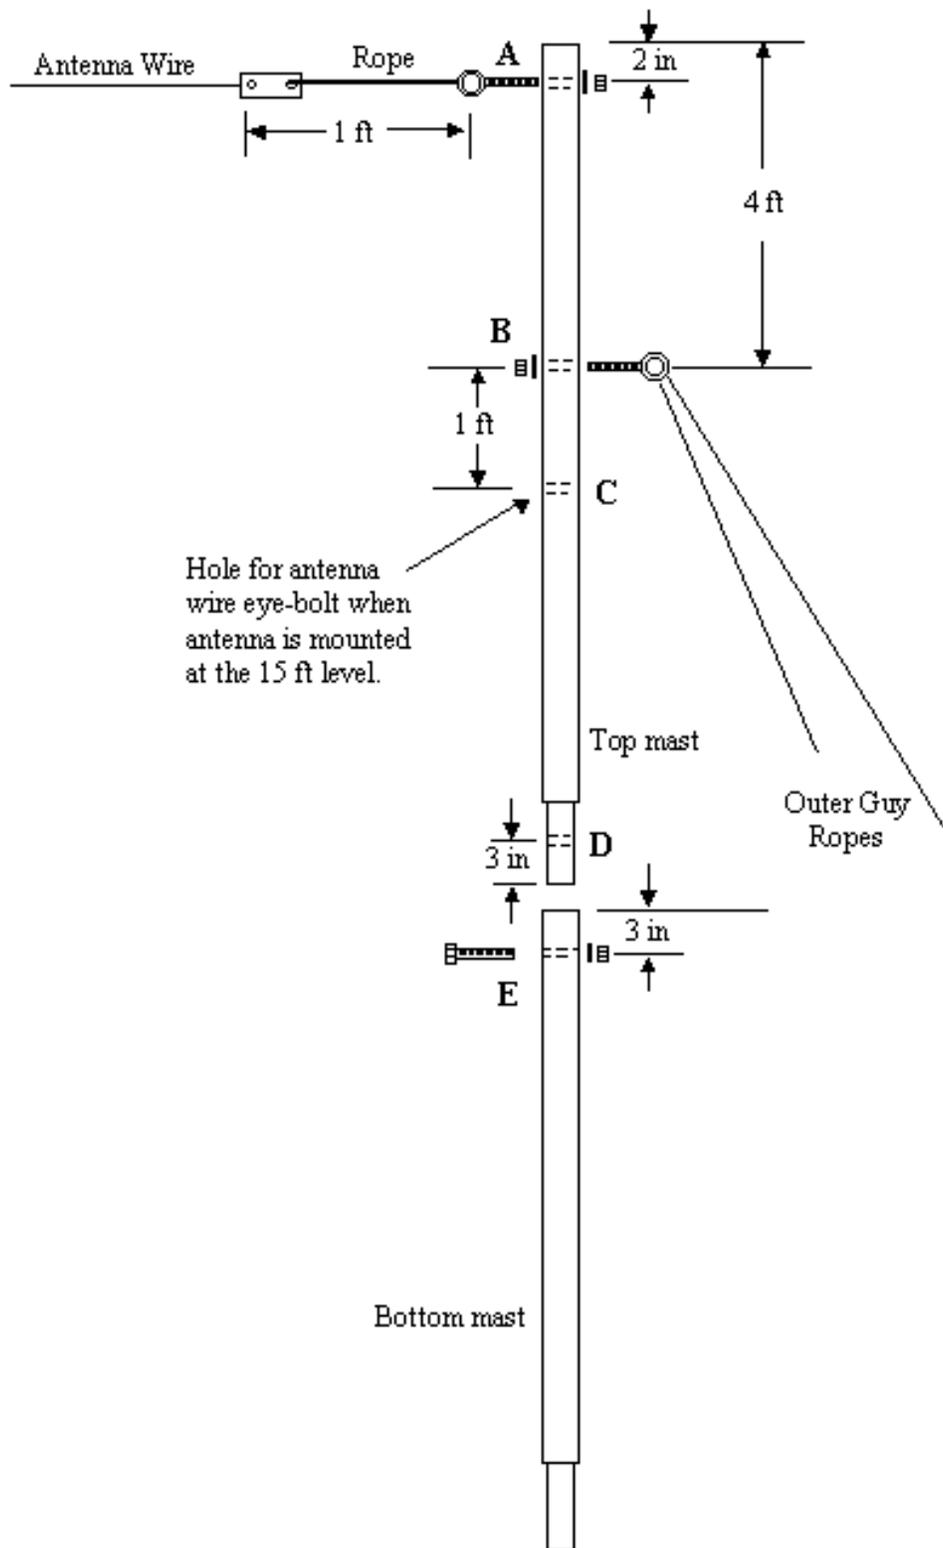

Figure 6.4. Metal Mast Assembly.
6.4. Metal Mast Assembly (Refer to Figures 6.4 and 6.5)
2. **O Refer to Figure 6.4.** All holes through the masts are 1/4 inch diameter. A hammer and punch (or nail) can be used to make a starting point for drilling. A pilot hole using a 1/8 in drill bit is recommended. Eyebolts and bolts should be secured using a flat washer, lock washer and a nut. All holes in the top mast should be in the same plane.
4. **O** Drill hole (E) thru the bottom mast.
5. **O** Insert the top mast section 6 inches into the bottom mast section. Using hole (E) as a guide, match-drill a hole though the top mast section – this becomes hole (D). The best way to match-drill the holes is to drill the inner mast from each side – using hole E as a guide. Then without moving the two masts relative to each other, run the drill all the way thru both masts
6. **O** Secure eyebolt in hole (B).
- B. *For the metal mast installation refer to Figures 6.4 and 6.5.* Cut 8 ropes to 21 feet. Attach 2 ropes to each of the eyebolts at the 16 ft level (hole B).